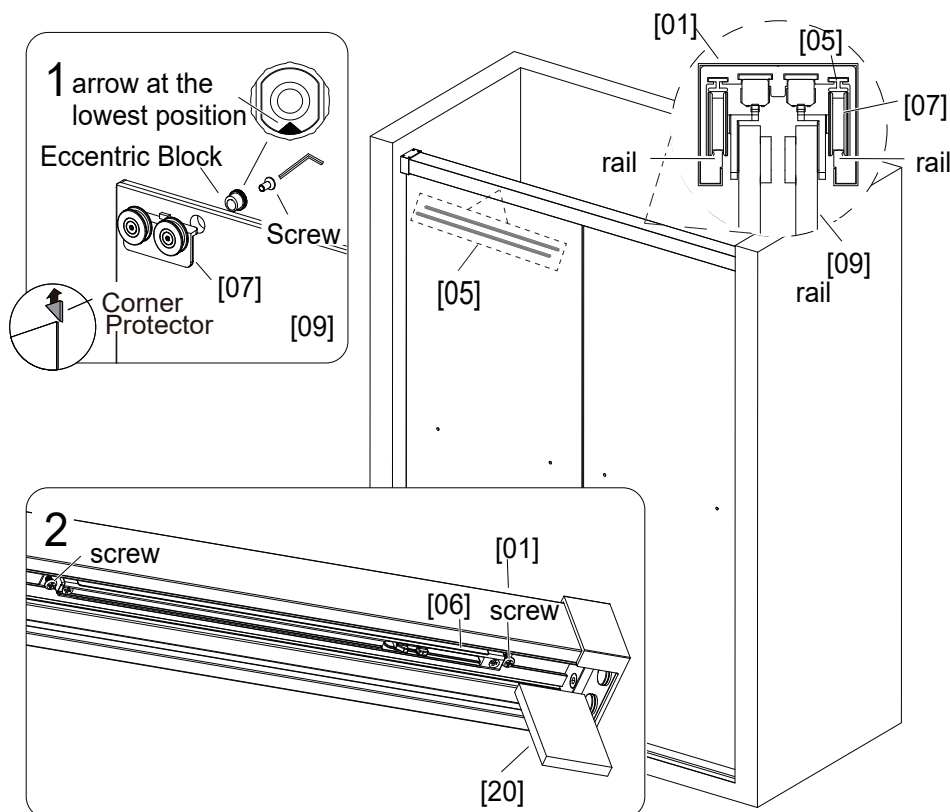

Fig 6
4. Hang the Doors [09] (Refer to Fig. 6)